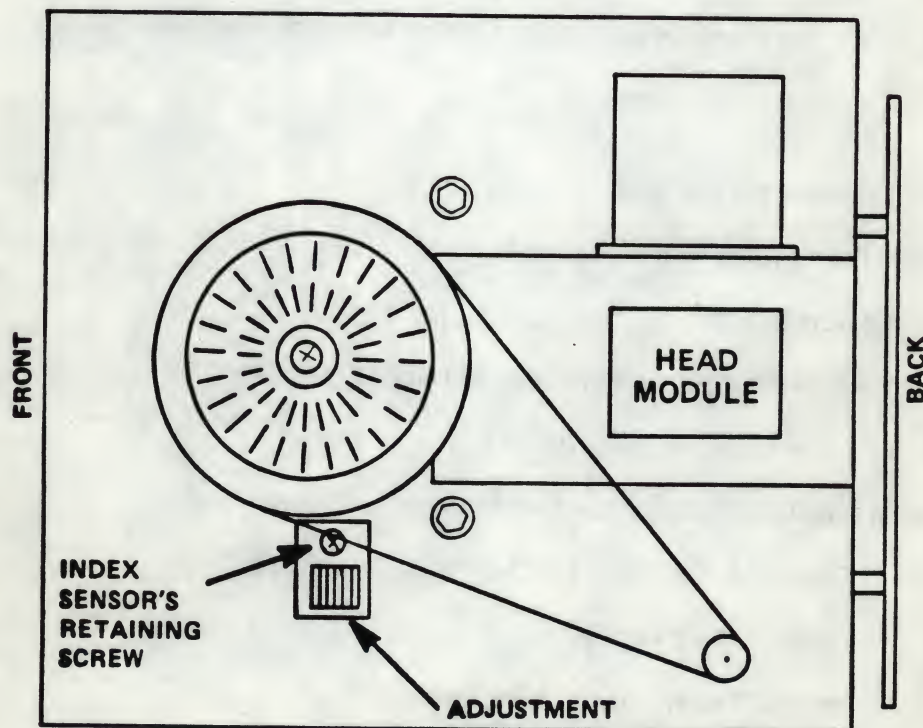

Figure 2-9
- 2.3.2.1 From the bottom of the chassis, loosen the index sensor's retaining screw counterclockwise one-quarter (1/4) turn (see Figure 2-9) with a Phillips screwdriver.